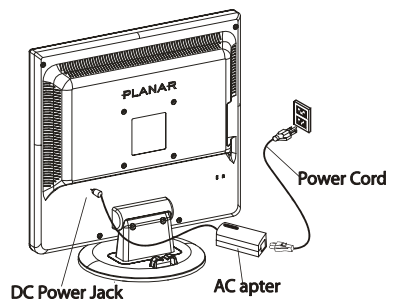

Figure 1-8
1. Connect the power cord to the AC adapter (See Fig. 1-8)